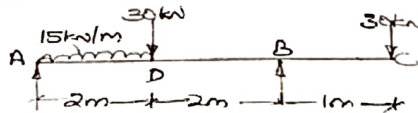

Fig.Q3(c)
- c. Draw SFD and BMD for a beam shown in Fig.Q3(c). Locate the point of contraflexure and maximum bending moment.